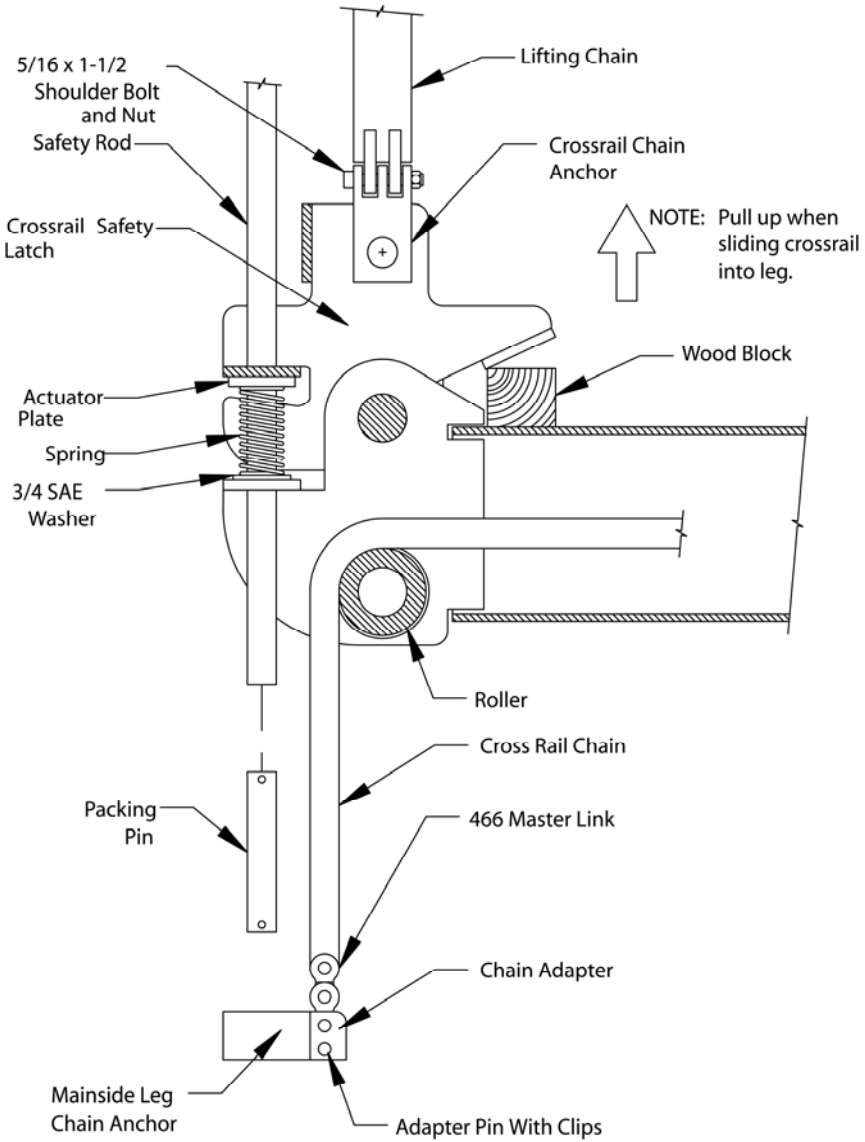

Figure 8
11. If required, position a 2 x 4 block under the safety latch on the mainside end of the crossrail as shown in Figure 8. Install a 3/4" nut onto the safety rod and turn it down to the end of the threads on the rod. Remove the hair cotter pin from the top end of the packing pin in the crossrail. Push the pin down and out using the safety rod, leaving the safety rod in the latch mechanism. While pulling up on the safety latch as shown in Figure 8, and while a helper pulls on the other end of the crossrail chain, insert the top end of the safety rod into the rear hole at the top of the mainside leg and slide the crossrail end into the mainside leg. Secure the top of the safety rod with a 3/4" nut. The top 3/4" nut should be flush with the end of the safety rod and the bottom nut should be tightened against the leg top. Remove the wooden block. Repeat for the other crossrail.